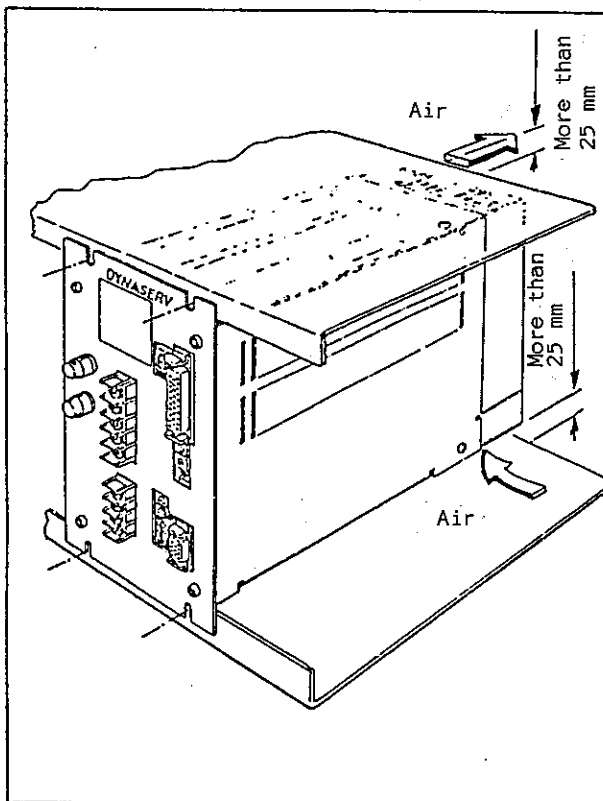

Figure 3.12
- A self-cooling driver box with a built-in fan is employed, so it is necessary to have a ventilation space above the box. (See Figure 3.12.)